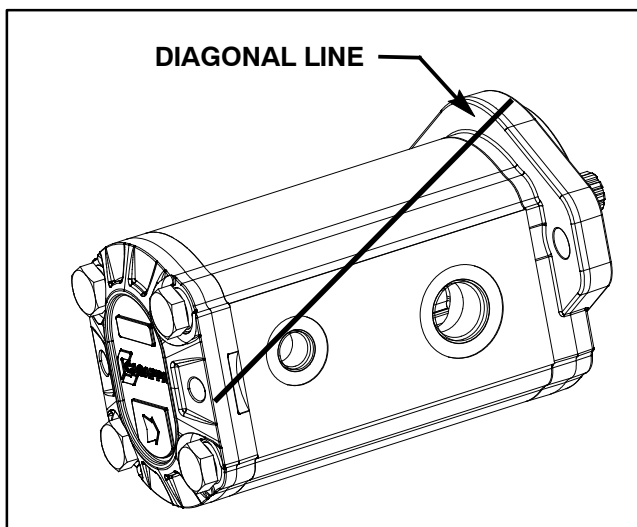

Figure 113
2. Use a marker to make a **diagonal** line across the gear pump for assembly purposes (Fig. 113).